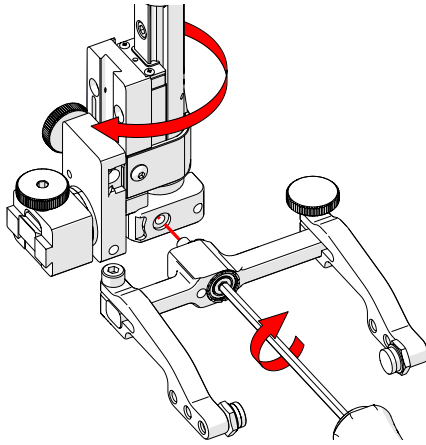

Fig. 97 - Screw yoke to opposite side
6. Mount the yoke to the opposite side of the base using the supplied 3 mm hex driver (Fig. 97).